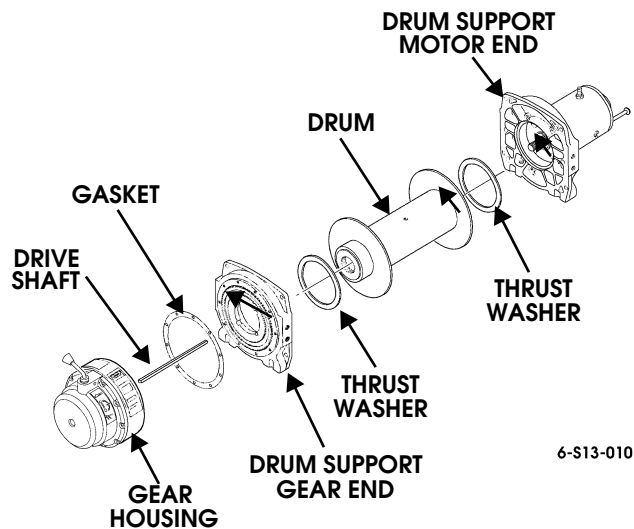

Figure 9-169: Drum Assembly and Gear Housing Assembly
1. Inspect drum for damage to splined end flanges and tube (Figure 9-169). Replace winch if damaged.